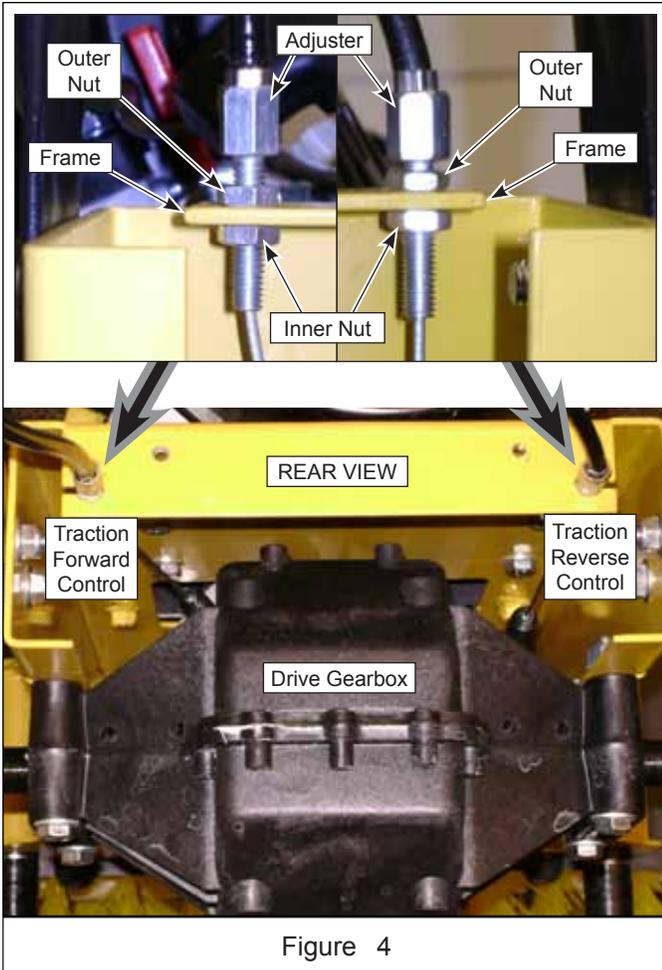

Figure 4
4. Loosen the adjuster's inner nut away from the frame. See Figure 4.